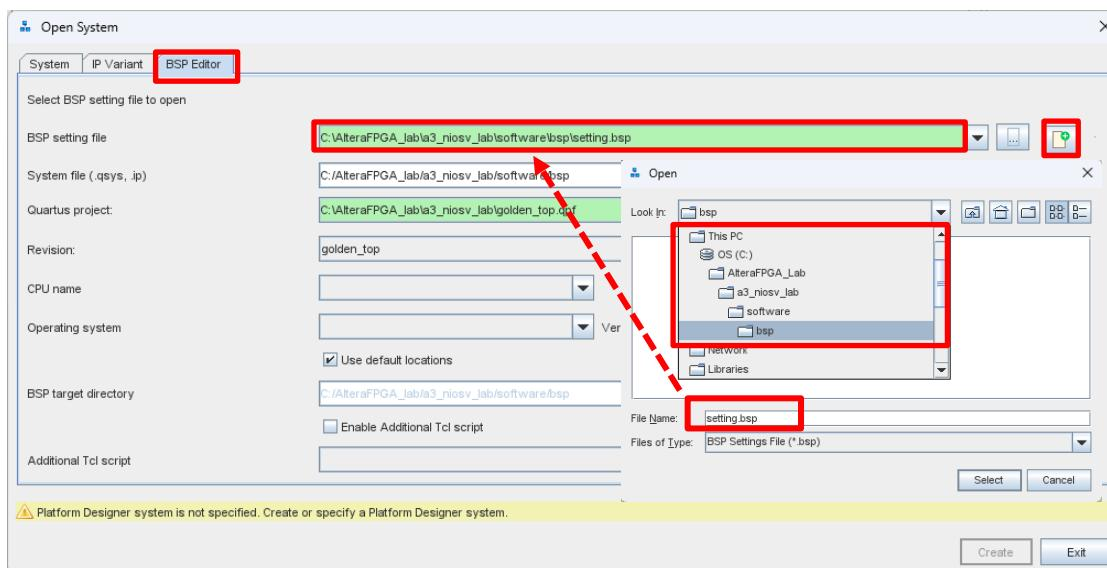

Figure 32 Generating the settings.bsp file
- 1. BSP setting file:** Click the New button on the right side of the window, and create setting.bsp directly under the **bsp** directory from the file selection window as shown in Figure 32.